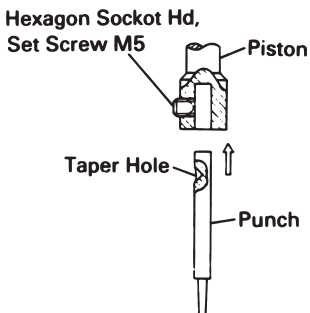

Fig. 9
- Insert the new punch while aligning the taper hole of the punch and the direction of the M5 hexagon socket set screw, then securely tighten the hexagon socket set screw. (see Fig. 9)
(2) Die replacement